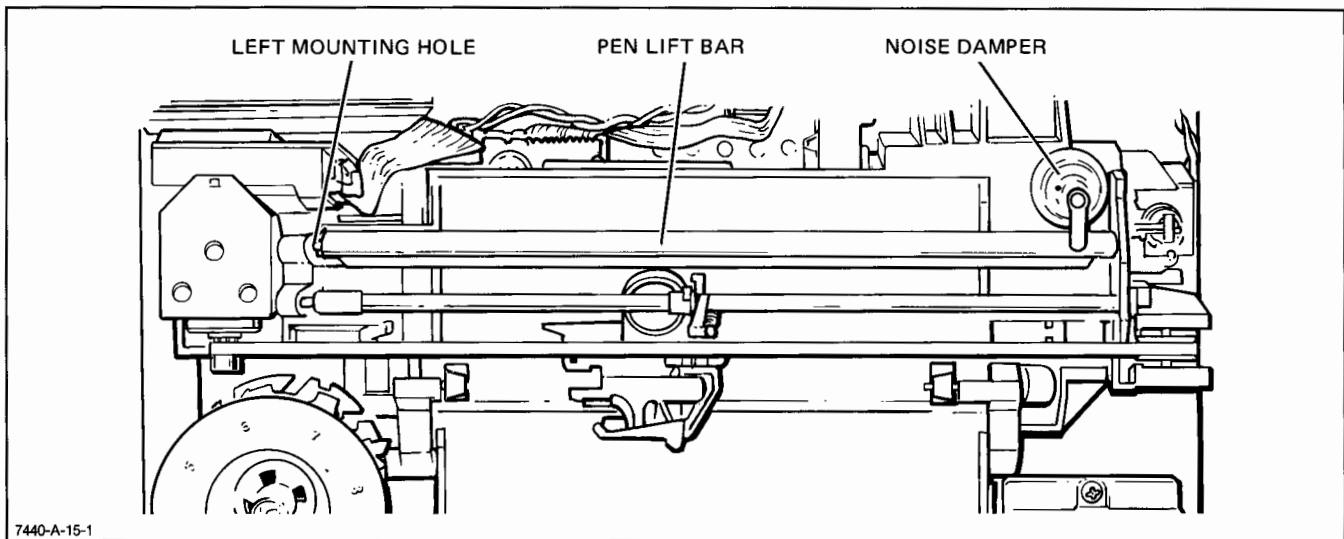

Figure 6-7. Pen Lift Bar Removal, Detail A
- d. Remove the pen solenoid assembly. If necessary, refer to the procedure, **PEN SOLENOID ASSEMBLY REMOVAL**. See Figure 6-7, Detail B.